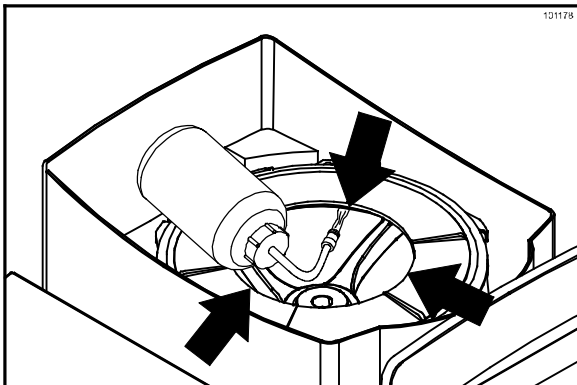

Figure 80
25. Thoroughly flush cleaning solution under the lip of the ice shaver assembly plastic cover. Make sure the solution is applied in a complete 360° circle. (See Figure 80.)